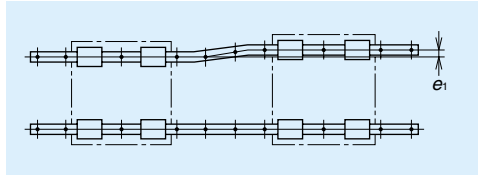

Fig. II-9-5
(3) Permissible values of mounting error
- Fig. II-9-5 and II-9-6 are representing the mounting errors. Their permissible values of mounting error are shown in Table II-9-4 to II-9-7.